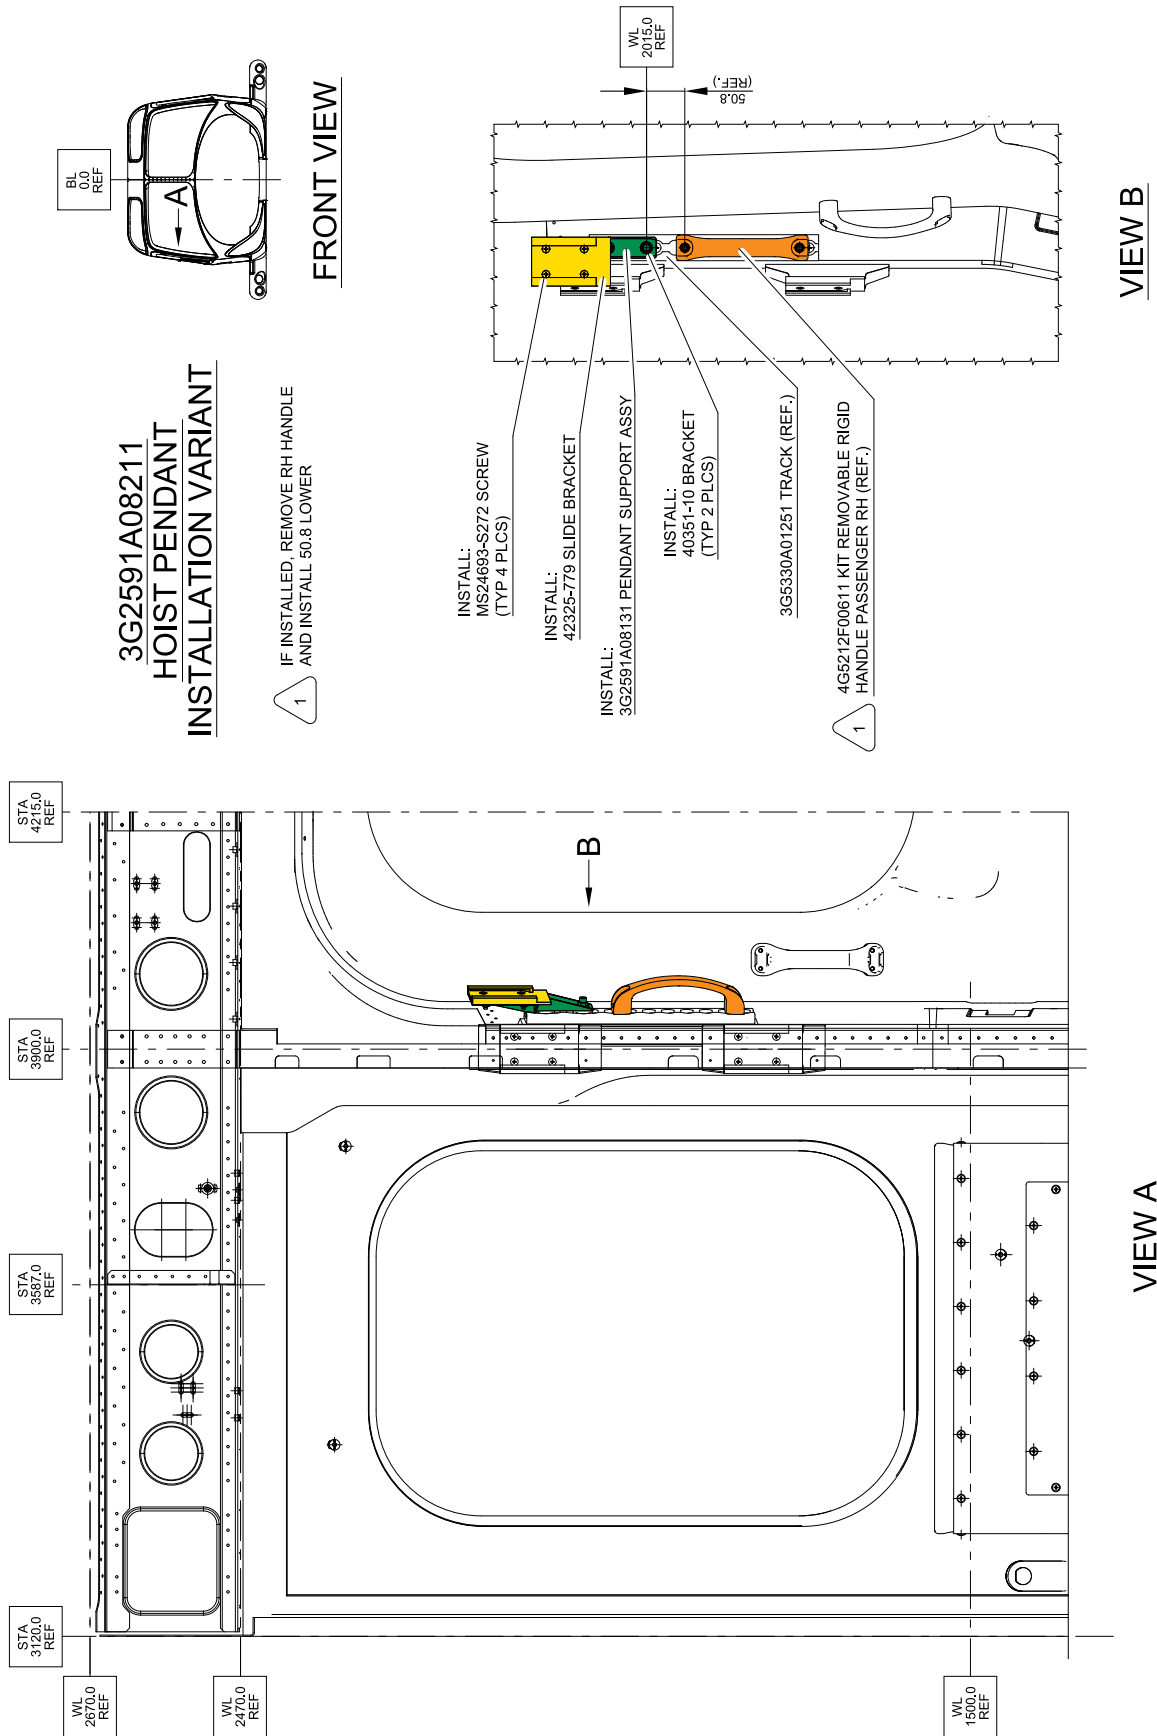

Figure 1
2. In accordance with AMP DM 39-A-06-41-00-00A-010A-A and with reference to Figure 1, remove all external panels, internal panels and internal liners as required to gain access to the area affected by the installation and perform the hoist pendant installation variant P/N 3G2591A08211 as described in the following procedure:
- 2.1 In accordance with AMP DM 39-A-52-15-01-00A-520A-K and with reference to Figure 1 View B, temporarily remove the passenger RH handle, retain all attaching hardware for later reuse.
- 2.2 In accordance with AMP DM 39-A-52-15-01-00A-720A-K and with reference to Figure 1 View B, reinstall the passenger RH handle 50.8 mm lower on the tie down fitting frame track P/N 3G5330A01251, by means of the existing hardware.
- 2.3 With reference to Figure 1 View B, install pendant support assy P/N 3G2591A08131 by means of n°2 brackets P/N 40351-10.
- 2.4 With reference to Figure 1 View B, install on pendant support assy the slide bracket P/N 42325-779 by means of n°4 screws P/N MS24693-S272.